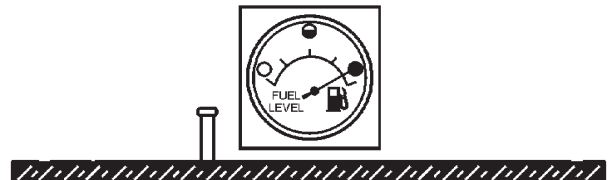

Figure 34. Full Fuel Tank
3. **NEVER overfill fuel tank** – It is important to read the fuel gauge when filling trailer fuel tank. **DO NOT** wait for fuel to rise in filler neck (See Figure 34).